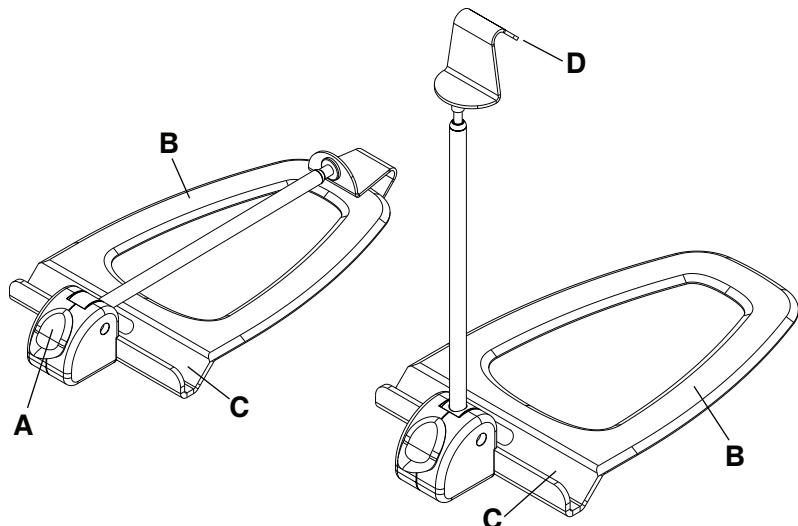

Figure 38 – Lateral X-ray cassette holder
2. Press down on the yellow release button (A) to open the lateral cassette holder (Figure 38).
3. Slide the flat base (B) between the mattress and the patient platform.
5. Place the X-ray cassette in the cassette canal (C).
6. Pull up on the cassette hook (D) to adjust the height of the arm to fit over the X-ray cassette to hold the cassette in place.